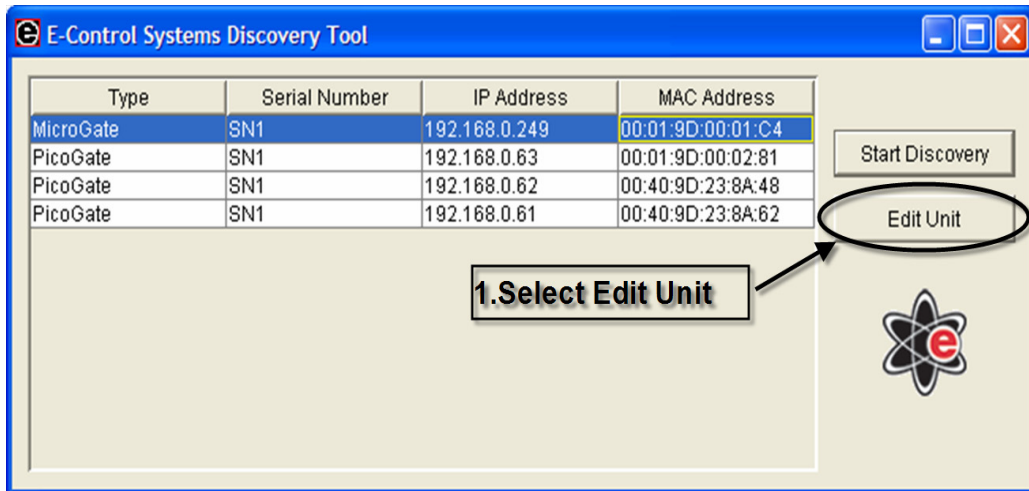

Figure 6
- Once the row corresponding to the unit to be configured is highlighted, click on **Edit Unit** (see Figure 6, note #1) to bring up the Unit's Properties